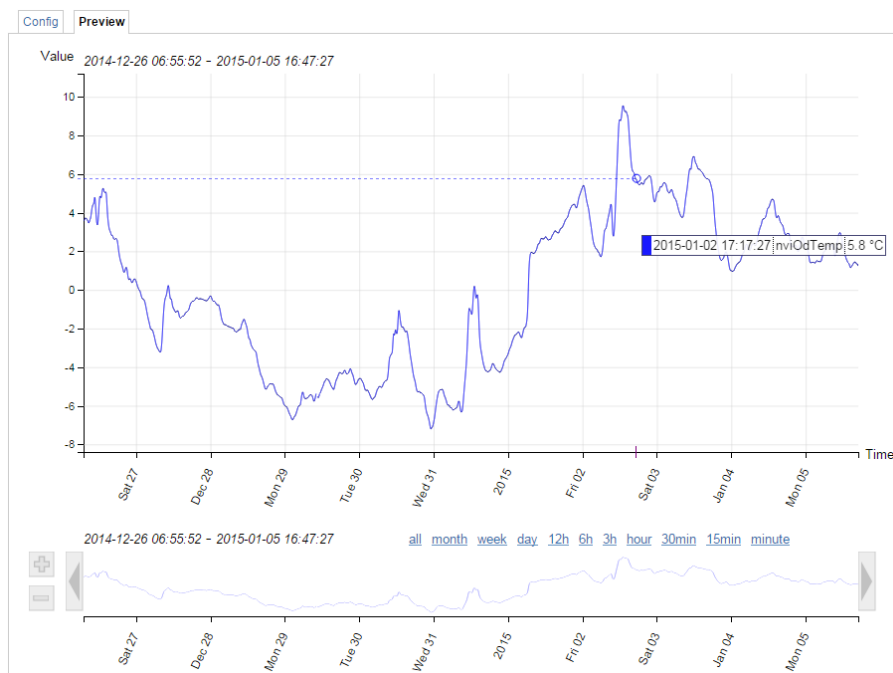

Figure 13: New trend chart on the Web UI
- The trend log configuration on the Web UI now also provides a preview tab, which shows a chart of the trend log data. The trend chart allows zoom, scrolling and hiding specific data curves, as shown in Figure 13.